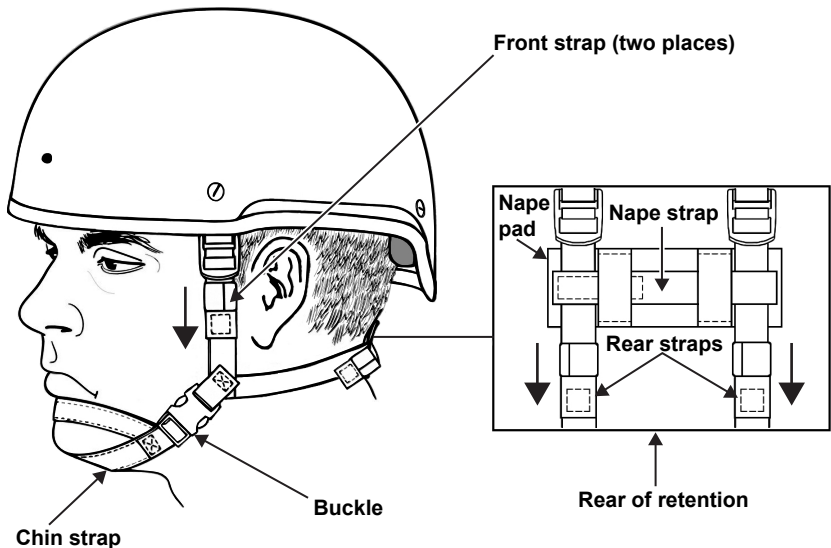

Figure 20. Helmet with H-style Retention
1. Referring to **Figure 20**, don the helmet, ensuring that the helmet rests just above the eyebrows.